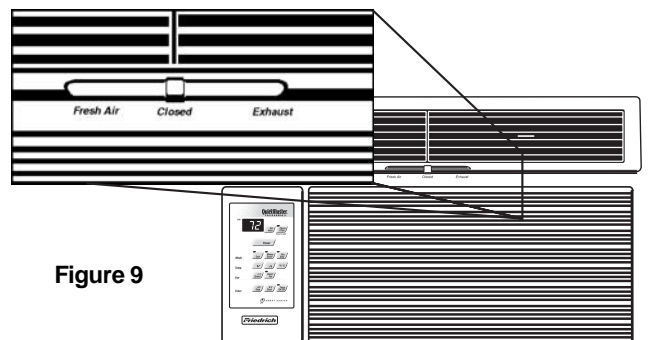

Figure 9
- ② **COOL** - Press the *Cool* button to automatically switch the operating mode to COOL.
- ③ **FAN ONLY** - Press the *Fan Only* button if you want to run the fan only. You may want to use this feature in conjunction with the *Fresh Air/Exhaust* if you want to bring outside air into the room, or exhaust stale air. (The FRESH AIR/ EXHAUST feature is located on the front of the air conditioner near the top. See Figure 9 on page 7.)
- ④ **MoneySaver®** - Press the *MoneySaver®* button to activate the MoneySaver® feature. This cycles the fan with the compressor so that the fan does not run all the time.
The **Fan Only** setting can also be used with the **Exhaust** air setting to remove stale air or smoke from the room; or it can be used with the **Fresh Air** setting to bring outside air into the room. This is especially useful in the spring and fall when cooling may not be necessary. The **Fresh Air** and **Exhaust** controls are in the upper air discharge area. The center position of this control is the normal, or closed position, which recirculates air for maximum performance in the cooling mode (See Figure 9).
The **Fresh Air** and **Exhaust** controls are in the upper air discharge area (see Figure 9, page 7). The center position of this control is the normal, or closed position, which recirculates air for maximum performance in the cooling mode.
Your air conditioner has the ability to bring fresh air into the room or exhaust stale air out of the room. The control lever is found on the upper part of the unit (See Figure 9).